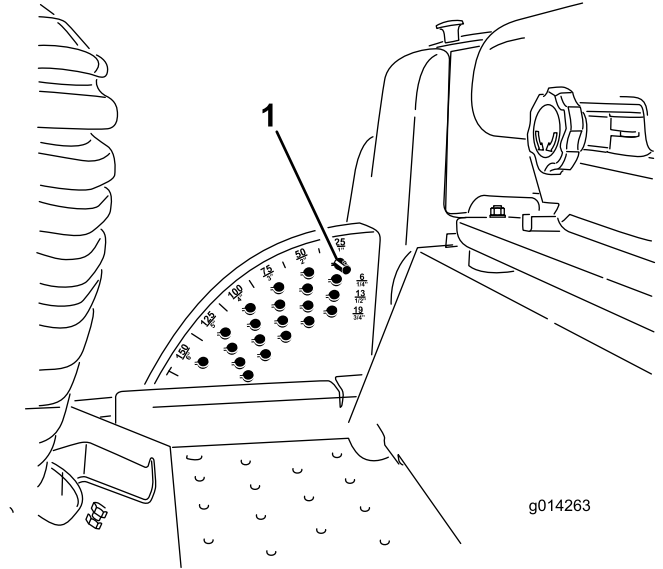

Figure 2
3. Note the location of the height-of-cut pin in the height-of-cut bracket for re-assembly purposes (Figure 2). Remove the height-of-cut pin from the height-of-cut bracket.